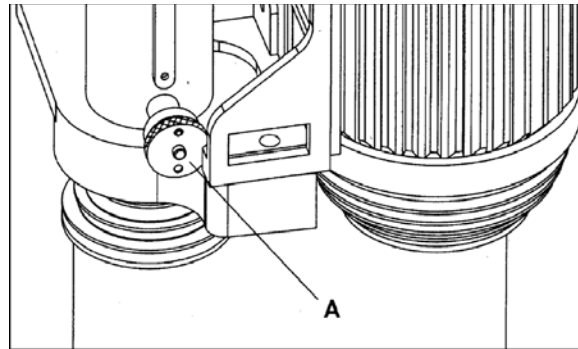

Figure 21
2. Pull out the knurled part of the lock knob (A, Figure 21) and rotate it 180 degrees until the opposite hole in the knurled lock knob engages the pin. The spindle is now locked.